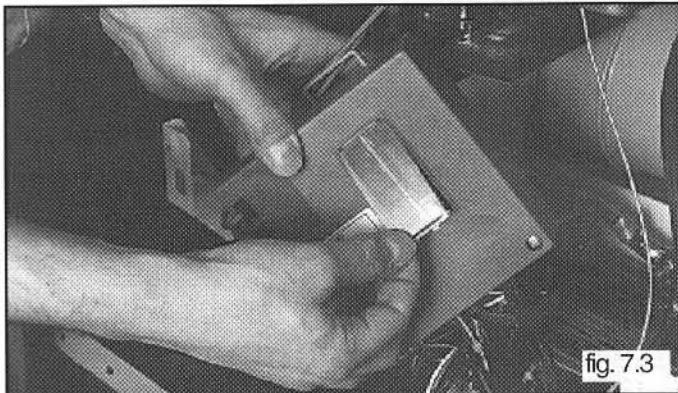

fig. 7.3
- 2 To remove the electronic PCB from its clamp, lift and then rotate it then remove the cover of pcb (fig.7.3);